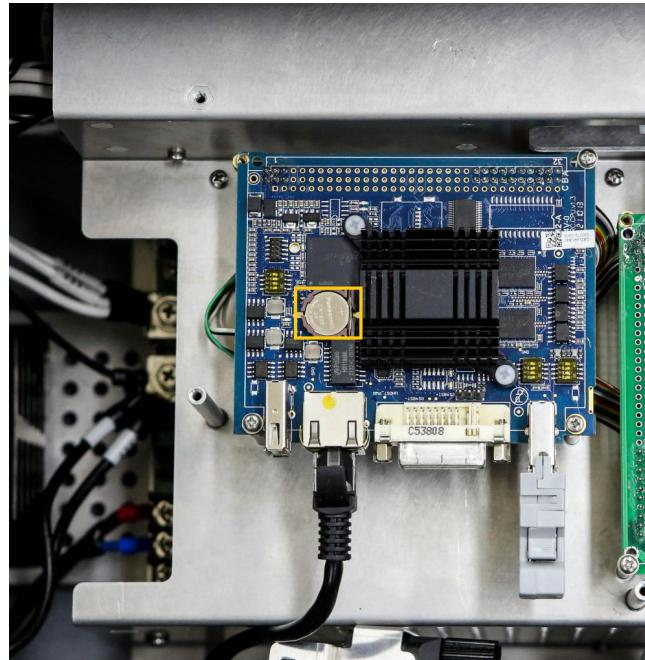

Figure 5-7 : Battery installation completed
4. Put the electromagnetic positive pole of the 3V button upward, insert one end into the position where the battery slot has a buckle, and press down gently until the battery slot card can catch the battery, as shown in **Figure 5-7** .